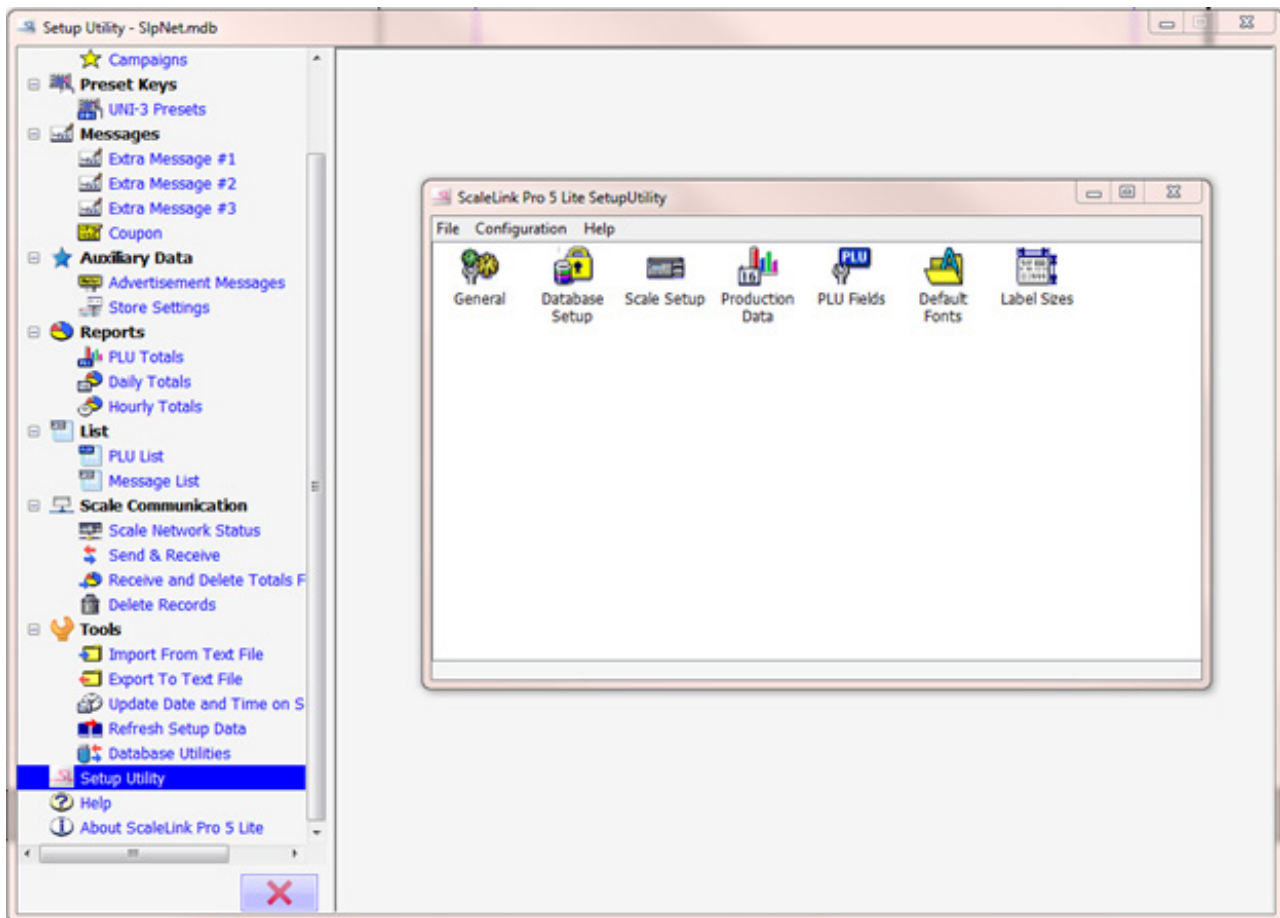

Figure 9-1
1. Select Setup Utility from the menu. See Figure 9-1.